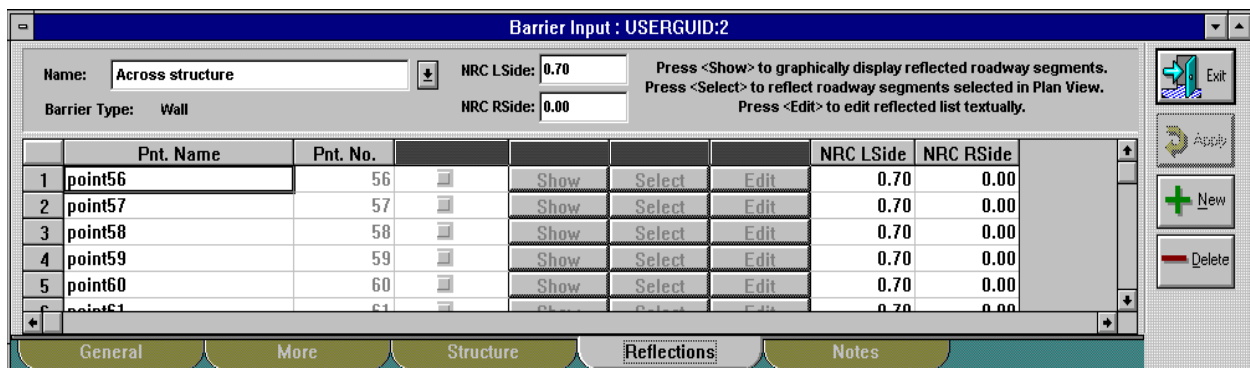

Figure 38. Barrier input: Reflections tab.
2. Select  on the barrier input dialog (see Figure 38).